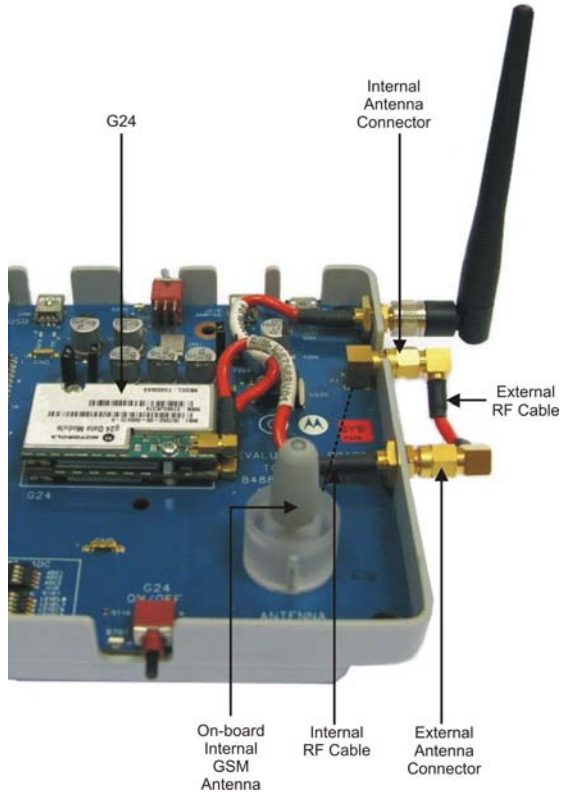

Figure 2-12: Antenna Connectors (internal)
- Connect the **EXT ANT** and **INT ANT** connectors with the additional RF cable supplied in the Developer's Kit (Figure 2-12).
2. Connect an external antenna or antenna application to the **EXT ANT** connector (Figure 2-12).